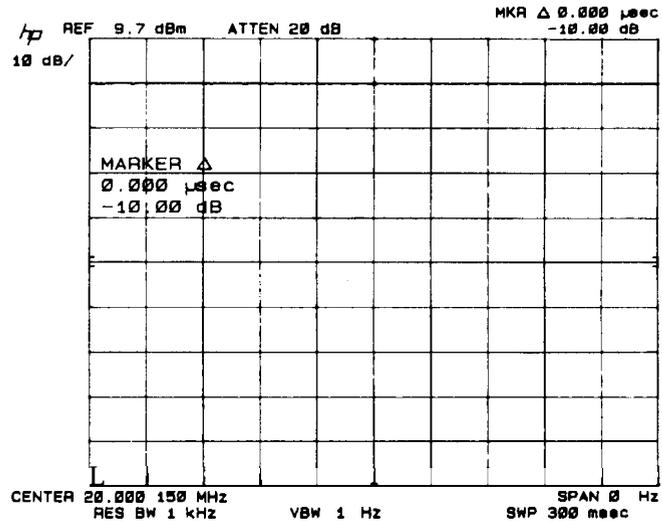

Figure 2-22. Amplitude Fidelity Measurement
6. Press **MARKER A**. Step the frequency synthesizer output amplitude from + 10 dBm to -80 dBm in 10 dB steps, noting the **MARKER A** amplitude (a negative value) at each step and recording it in column 2 of **Table 2-16**. Allow several sweeps after each step for the video filtered trace to reach its final amplitude (see **Figure 2-22**).